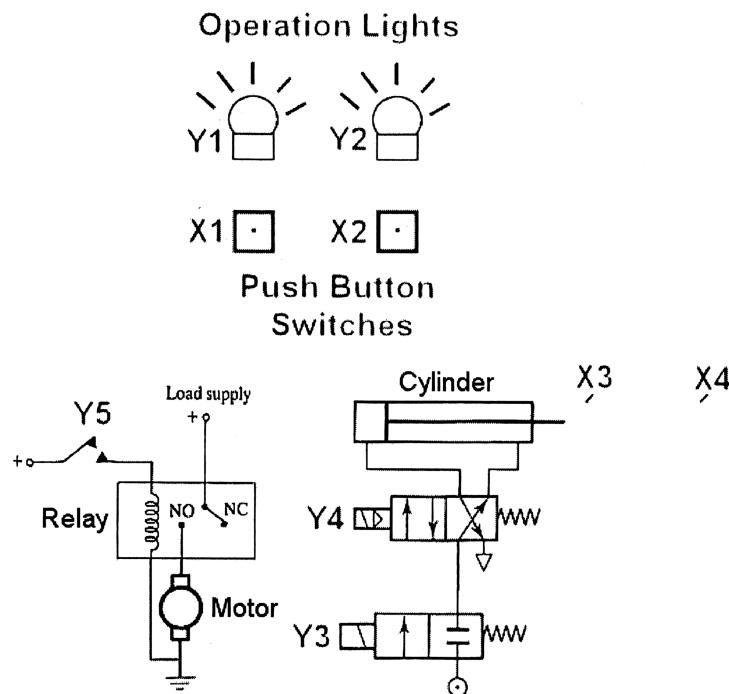

Figure 3a
- 3 (a) The components of an automation system are shown in Figure 3a.